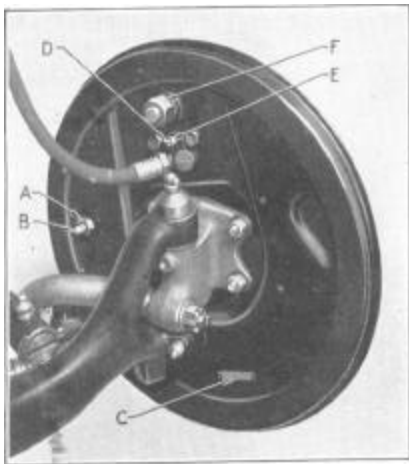

Figure 19
(1) Remove the screw (D), Figure 19, and screw the end of the bleeder tube (A), Figure 18, in its place and allow end of tube to hang in a jar partially filled with liquid.
(2) Slip the bleeder wrench (B), Figure 18, over the tube until it engages on the hexagonal section of the bleeder valve (E), Figure 19.
(3) Open the bleeder valve  $\frac{3}{4}$  turn.
(4) Push the brake pedal down and allow it to return slowly. This will force liquid and air out the bleeder tube. Continue this operation until air bubbles cease to be emitted from the bleeder tube.
(5) Close the bleeder valve (E), remove the bleeder hose and wrench, replace the screw (D), Figure 19.
(6) Refill reservoir.
There are only two points of adjustment in the braking system to compensate for brake lining wear. The Eccentric Adjustment (B), Figure 19, centralizes the brake shoes in the drum. The Adjusting Screw, accessible by removing cover (C), Figure 19, takes up the clearances between the lining surfaces and the brake drums.
(1) Jack up all wheels clear of the floor.
(2) Disconnect rear wheel cables from equalizer bar.
(3) After removing adjusting hole covers (C), Figure 19, and gauge hole covers in brake drums, AT EACH WHEEL: Loosen eccentric lock nut (A), Figure 19, and insert .010" feeler gauge between the lining of secondary (eccentric controlled) shoe and brake drum. Turn the eccentric adjustment in